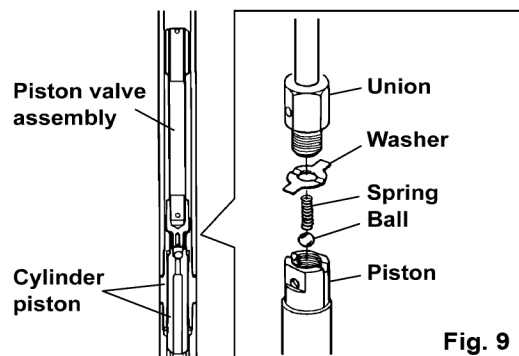

Fig. 9
- 8) Set a pipe wrench on notched part of the suction tube and unscrew it. The piston valve assembly can be removed. (Fig. 9)
- 9) Flatten the bending part of the washer that fixes the union and the piston. Separate the union and the piston with a spanner, and then remove the ball and the spring. (Fig. 9)